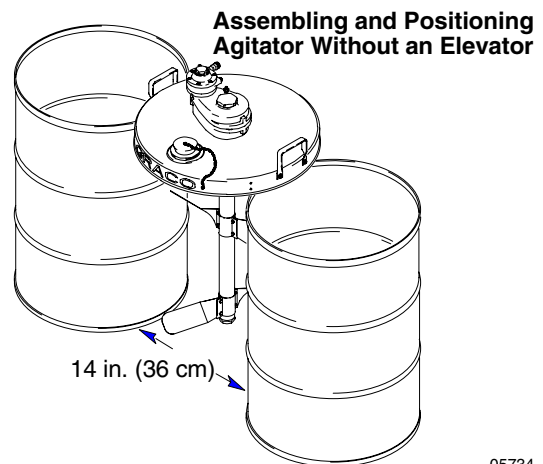

Fig. 2
Place two standard 55 U.S. gallon (45 Imperial gallon) barrels 14 in. (approximately 36 cm) apart, and center the drum cover on the barrels with the Graco logo centered and facing you, as shown in Fig. 2. Proceed to step 1 in **With or Without an Elevator**.
1. Slide the agitator shaft through the large hole in the center of the drum cover (29).
2. Rotate the agitator so that the air motor is to the left of the shaft, as shown in Fig. 2, which will align the three tapped holes in the bottom of the agitator with the three through holes in the drum cover.
3. Thread the three hex head screws (25) up through the drum cover and into the agitator, and torque them to 75 in-lb (8.4 N•m).
4. Assemble one pair of agitator blades (28) so that the four through holes in the blade halves are lined up (see **Parts Drawing** for blade orientation).
5. Push four cap screws (31) through the four holes in the blades, and start the lock nuts (32) onto the cap screws.
7. Tighten the four lock nuts (32) evenly to draw the blades together until they are tight on the shaft. Torque the locknuts to 50 to 55 in-lb (5.6 to 6.2 N•m). A gap will remain between the blade halves.
9. Position the second blade assembly near the bottom end of the shaft, but not on the bottom plug (20).
10. Rotate the lower blade assembly so that it is oriented 90 degrees relative to the upper blade assembly, and torque the lock nuts (32) to 50 to 55 in-lb (5.6 to 6.2 N•m). A gap will remain between the blade halves.